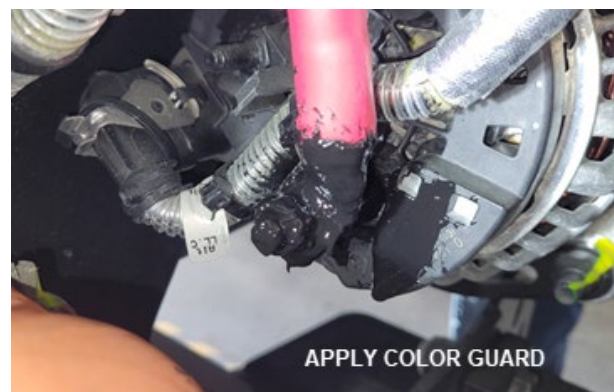

Figure 12: Color guard re-application
11. Re-apply color guard to the stud and terminal (Figure 12).